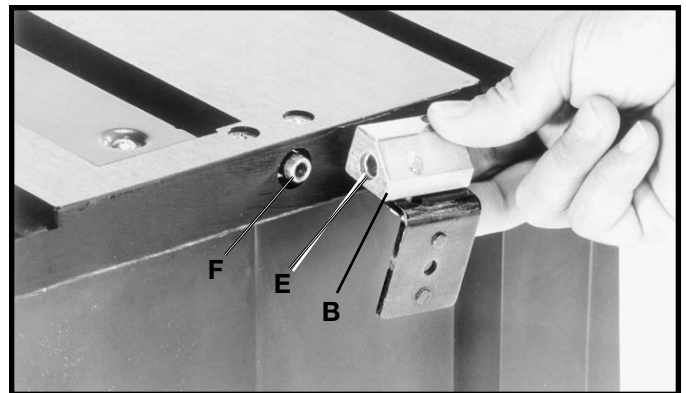
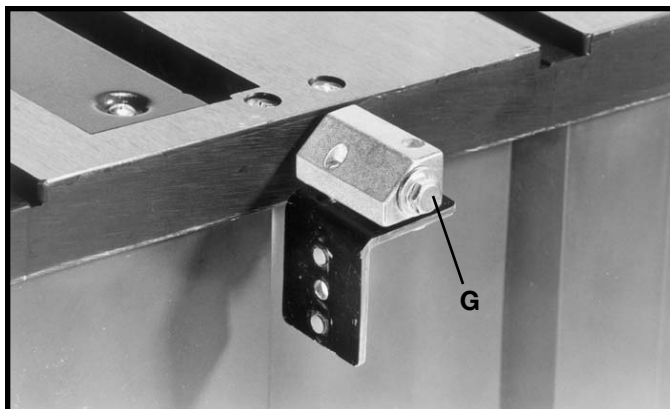

Fig. 11
Fig. 12
6. Position recessed end (E) Fig. 11, of splitter bracket (B) against end of pivot rod (F) and fasten in place using the 1/4-20 x 2-1/4" hex head screw (G) Fig. 12, 1/4" internal tooth lockwasher, 1/4" flat washer and 1/4" external tooth lockwasher which were assembled to screw (G) in **STEP 5. NOTE: Do not completely tighten screws (G) at this time.**